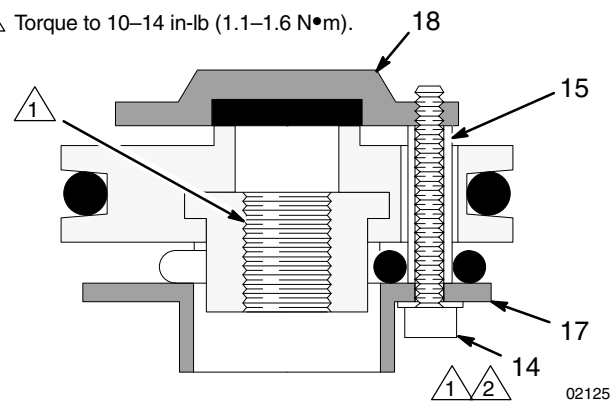

Fig. 7
6. If any valve plate spacers (15) are damaged, replace all three to maintain the correct clearance between the valve plates (17, 18) and the seats. See Fig. 7.
- △1 See Fig. 7.